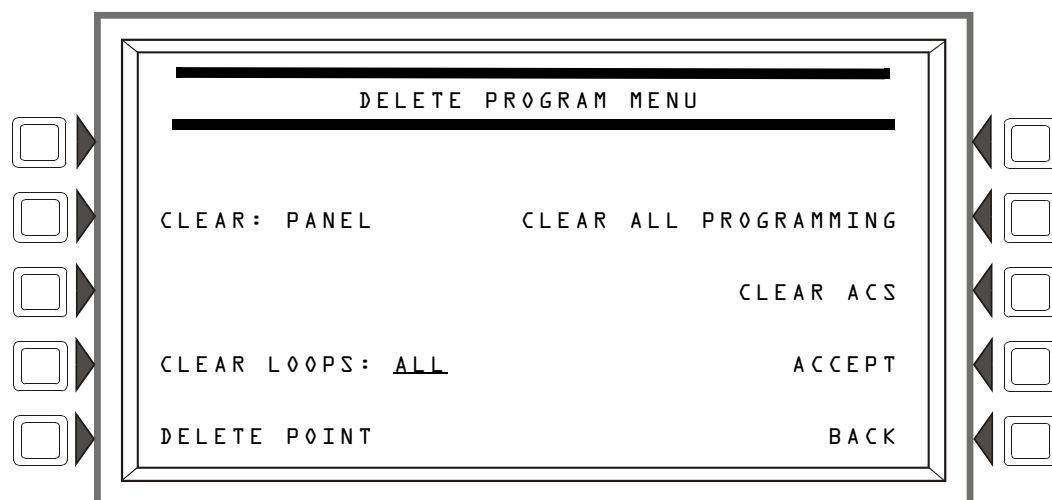

Figure 3.61 Delete Program Menu Screen
1. Use the Delete Program Menu screen (refer to Figure 3.61) to clear any applicable programming from the panel. For example, if loops one and two are to be autoprogrammed, clear the programming that exists by entering **1+2** at the Delete Program Menu screen.